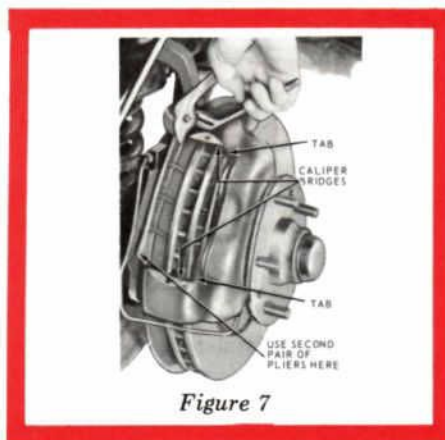

Figure 7
4. Grasp the metal flange on the outer end of the shoe with two pairs of pliers and pull the shoe out of the caliper (Figure 7).
1. Position a new shoe and lining assembly on each side of the rotor so that the lining faces the rotor. Be sure that the tabs on the shoe flanges seat fully against the caliper bridges (Figure 7).